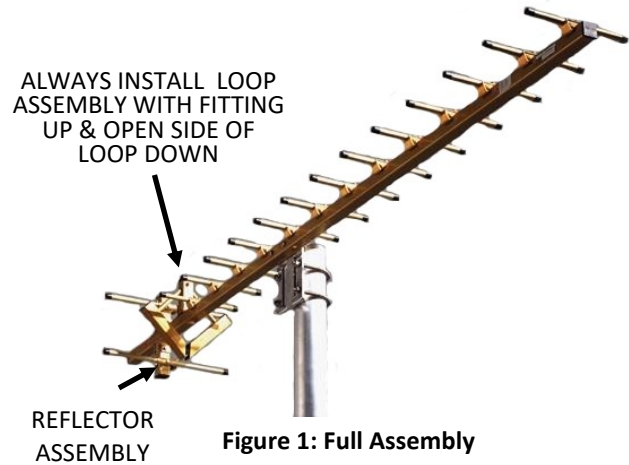

Figure 1: Full Assembly
2. Assemble the Loop and the 2 Reflector Assemblies to the crossarm using a single long hex bolt as shown in Figure 1.